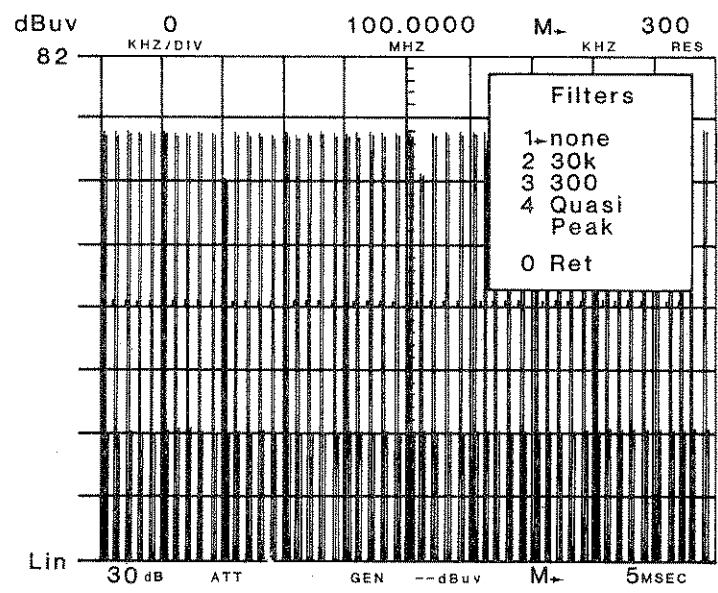

Figure 7-11 Frequency in Question Before Quasi-Peak
8. Use the SCAN WIDTH DOWN "↓" key to set the Scan Width to zero. Return to the Master Menu and select the FILTERS Menu (Press: "0" "4"). See Figure 7-11.